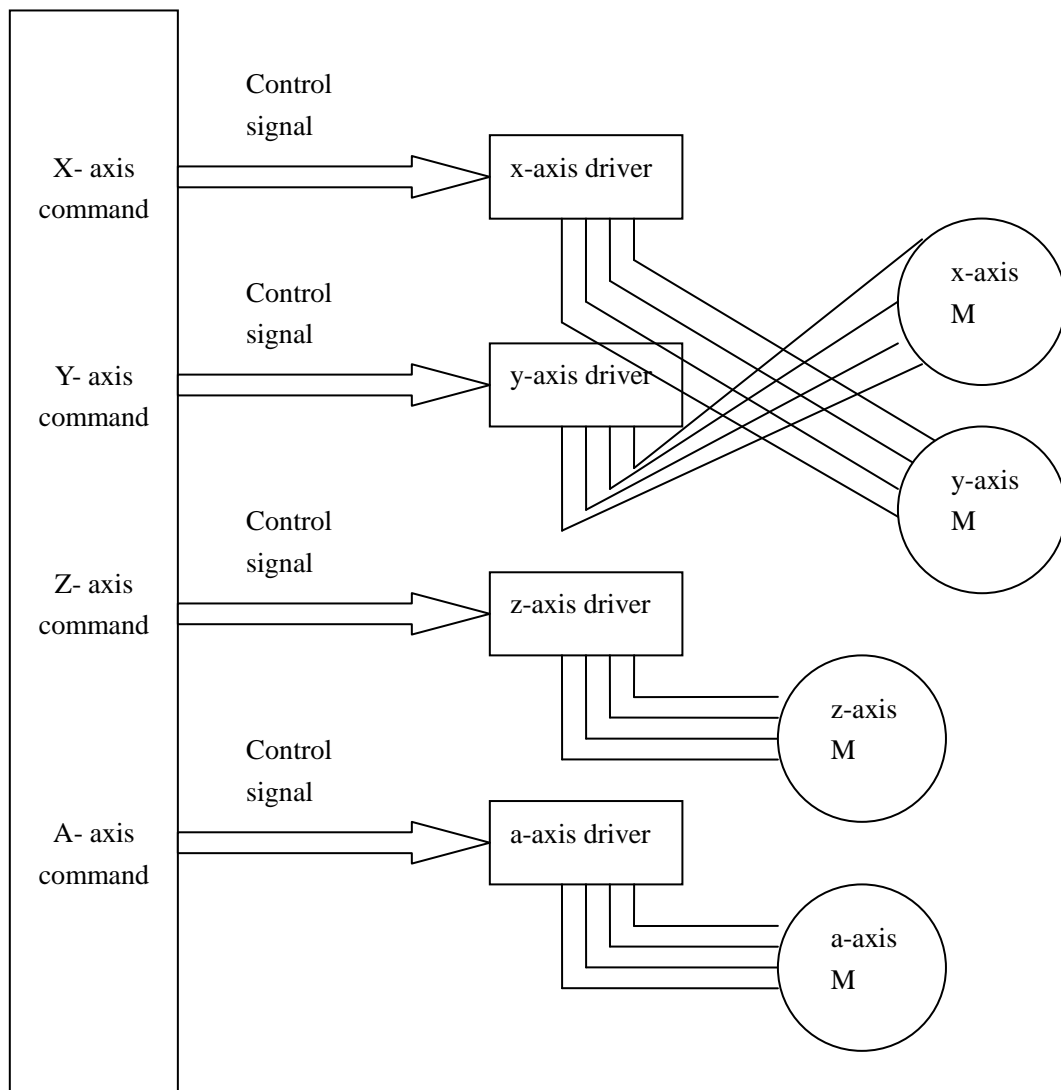

Figure 7-6
2.check step motor and wiring, For example, x, axis have some problem, you can do as Figure 7-6	2. if stepper motor have having issues, replace it. Do not unplug stepper motor with machine on and computer on. This will cause 5 axis card to not work